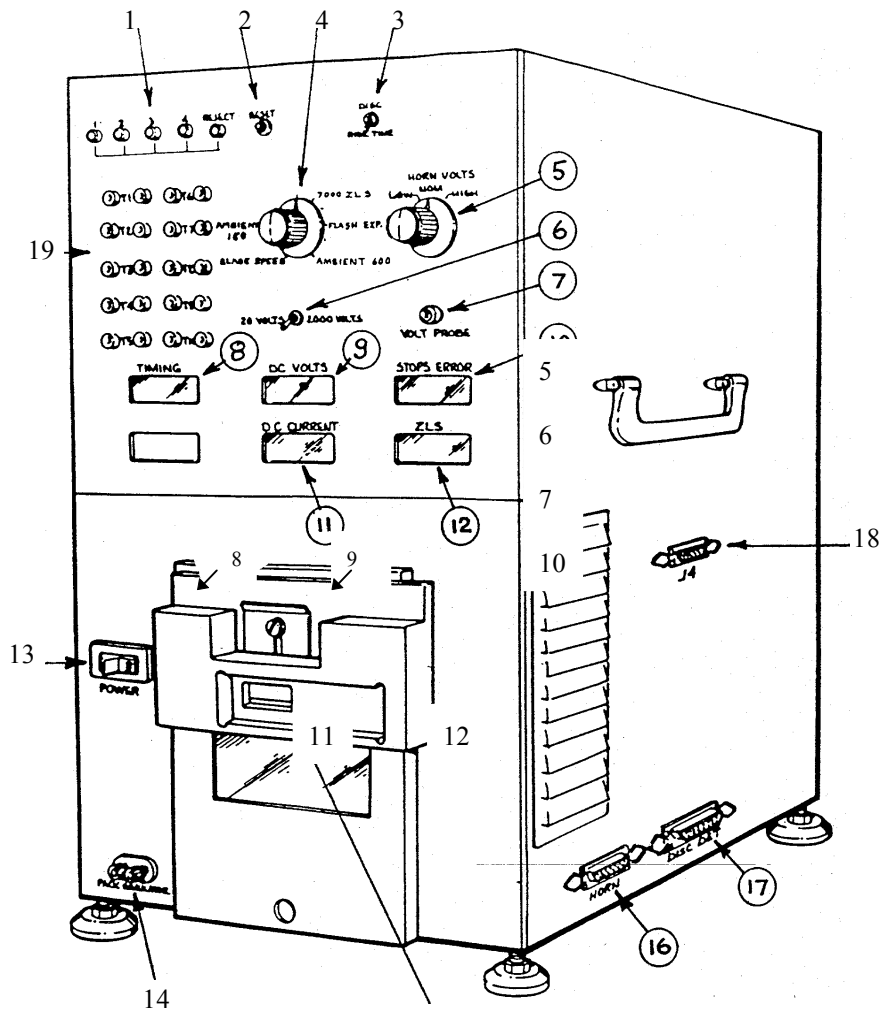

Figure 3-6 Star Tester 12650-3 Controls & Indicators
Except for a new Horn #13146 for holding Spectra System cameras and a few name changes of Selector Switch positions (see Figure 3-6), the 12650-3 Tester is outwardly identical to the earlier Model 12650-2 Star Tester.
Model 12650-3 Controls & Indicators (see Figure 3-6)
Listed below are the Star Tester 12650-3 controls and indicators shown in Figure 3-6. The integrating light sphere and electronics required to compute and display exposure, timing and functional characteristics of the camera under test are all housed within the tester cabinet.
5. Mount the camera on the Spectra Horn #13146 and connect the cable from Horn to the receptacle marked "horn" (key #16 in Figure 3-6) on the right side of the Tester.